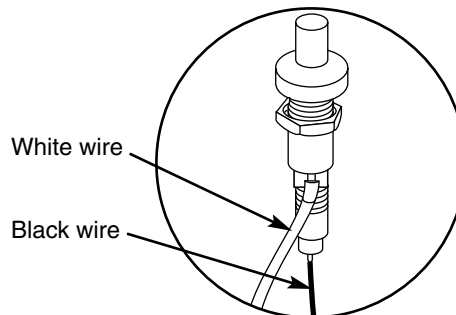

Figure22
- Check that both the white and black ignition wires are attached properly. Figure 22.